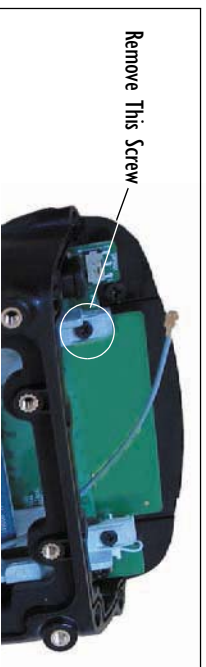

Figure 4 The Antenna Screw
- Remove the screw indicated in Figure 4 before inserting the antenna.